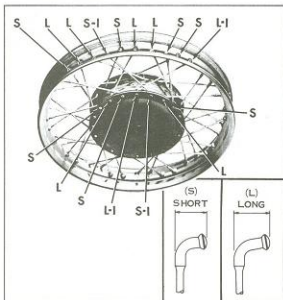

Figure 2-20. Front Wheel Lacing
Note that there are two types of spokes, long and short at bent end as shown in the figure. One long and one short spoke are used in each pair. The long spoke (L) of each pair on rim crosses over to opposite side of hub while the short spoke (S) of each pair on rim connects to same side of hub. Spoke arrangement is shown in Figures 2-20 and 2-21.
ASSEMBLING SPOKES (Figures 2-20 and 2-21)
9. Insert long spokes into right (clockwise hole) of each pair of holes that angles in same direction as spoke on opposite side of rim well. See L-1 in Figures 2-20 and 2-21.
10. Insert short spokes into right (clockwise hole) of each pair on near side of rim well that angles in same direction as spoke. See S-1 in Figures 2-20 and 2-21.